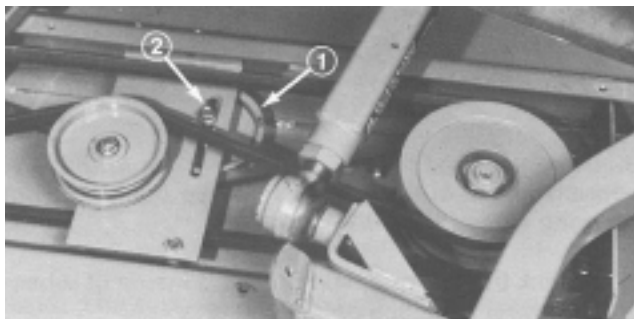

Figure 28
4. Mount a belt on the lower pulley groove of the left spindle, slide the belt under the belt idler mount plate, and install it around the center spindle pulley. Tension the belt by levering the idler pulley against the belt and tighten the idler pulley flange nut (Fig. 28).